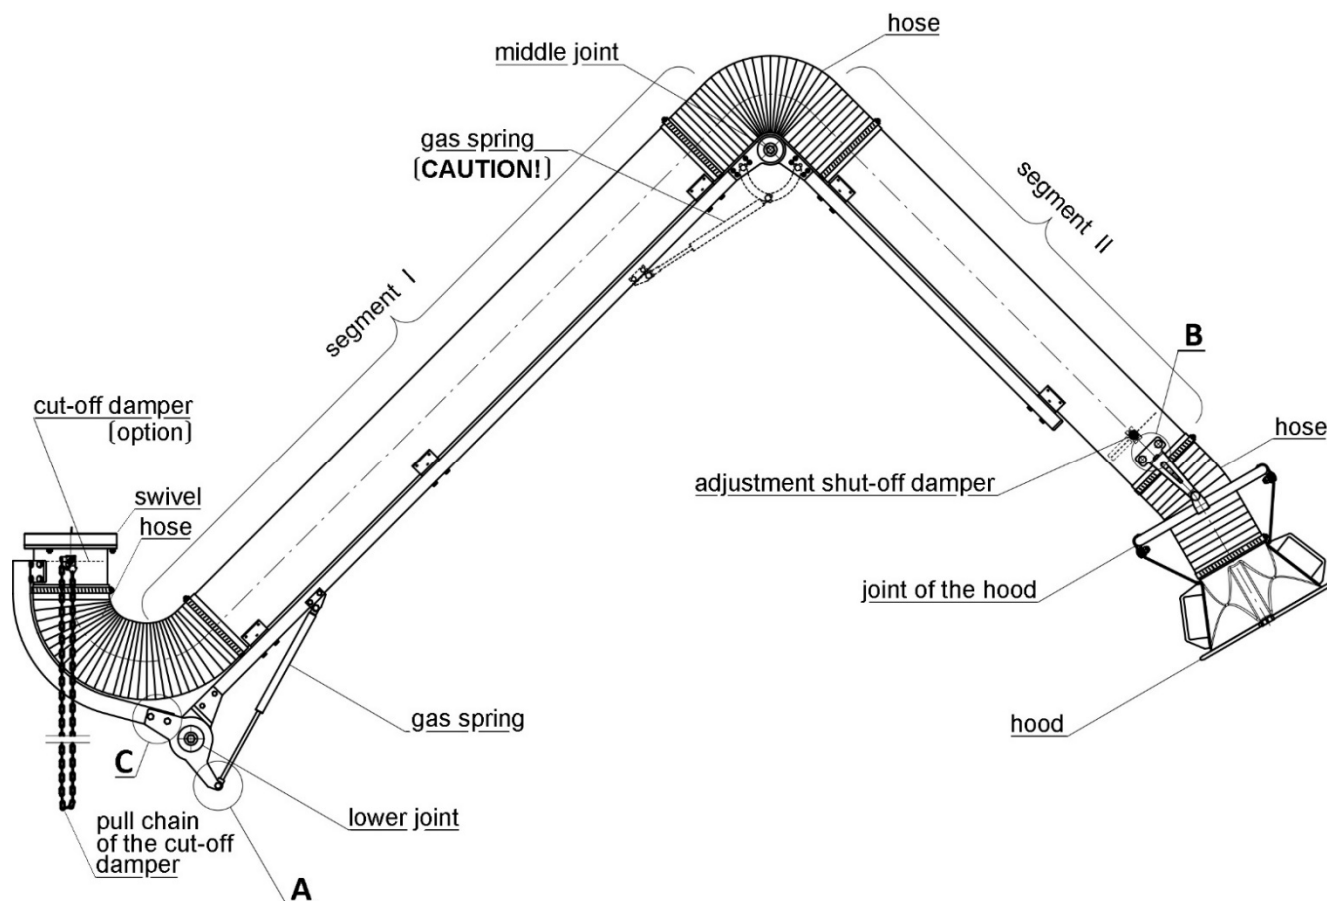

Fig. No.5
3. Screw up the swivel support, to the plate of the lower joint – according to the information in Fig. No.5 Detail "C".